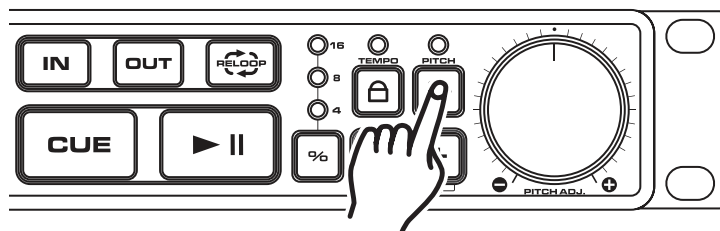

Figure 31
Using the PITCH PERCENTAGE SELECTOR (13): You may choose a pitch operating range at any time. To change the operating range be sure the pitch function is turned on, see figure 31. The pitch percentage can be changed between +/-4%, +/-8%, and +/-16%. 4% will allow the least amount of pitch manipulation and 16% will allow the most amount of pitch manipulation. To adjust the different values, press the *PITCH PERCENTAGE BUTTON (13)* to change the percentage, until your desired percentage is reached.